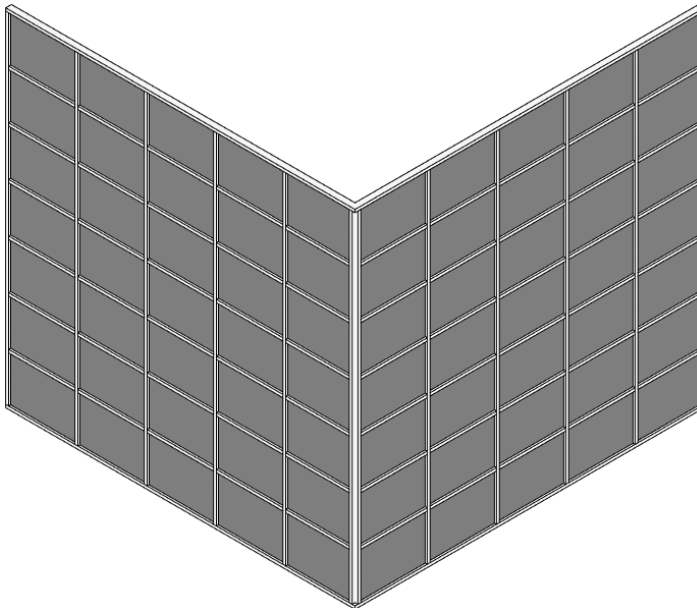

FIGURE 2.22 Curtain wall panels and mullions specified
5. Scroll down further in the **Type Properties** dialog to locate the **Vertical Mullions** and **Horizontal Mullions** parameters. Set **Interior Type** for both **Vertical** and **Horizontal Mullions** to **Rectangular Mullion : 2.5" 5" Rectangular**. Do the same for the **Border 1 Type** and **Border 2 Type**, so all settings are using the same rectangular mullion. Click **OK** to close the **Type Properties** dialog, and both curtain walls should update (Figure 2.22).